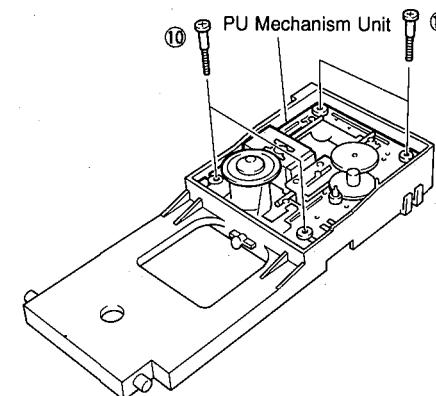

Fig. 5
- Pull out 4 Pins (10) and then remove the PU Mechanism Unit as shown in Fig. 5.